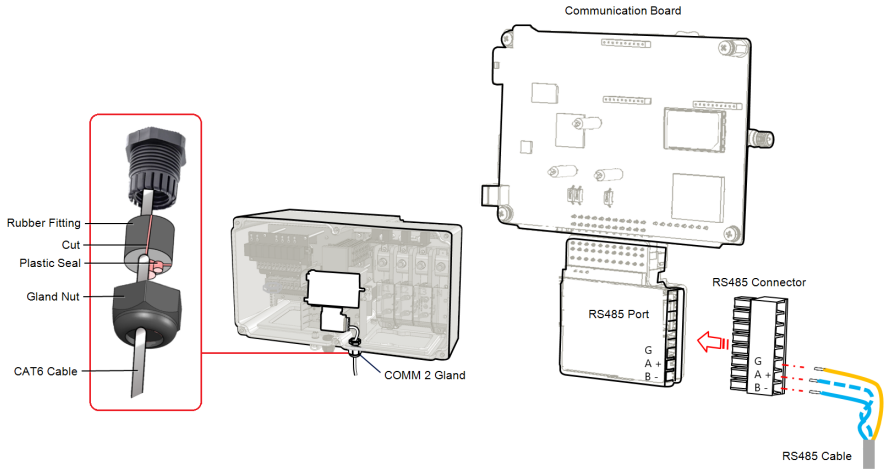

Figure 31: RS485 terminal block on the communication board
3. Pull out the 6-pin RS485 terminal block connector, as shown in *Figure 31*.